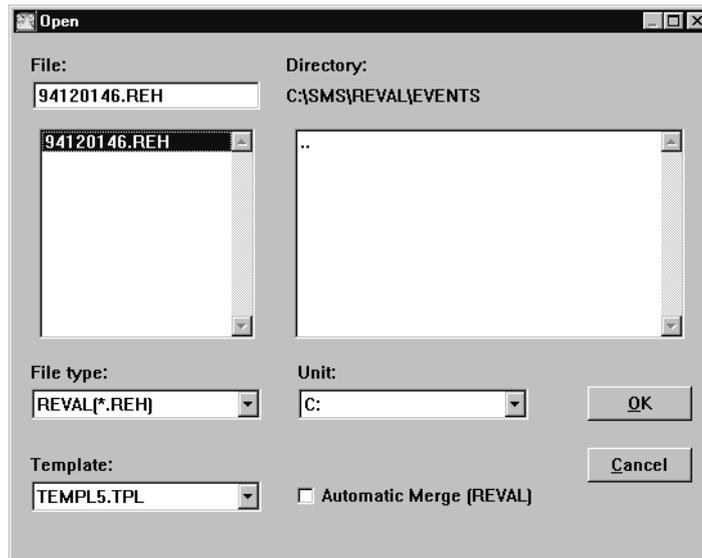

Fig. 19 The open dialogue box.
- 1 **Select Open... to open a disturbance window. The open dialogue box appears prompting you to enter or choose a disturbance to be opened (from the list boxes provided), see Fig. 19.**